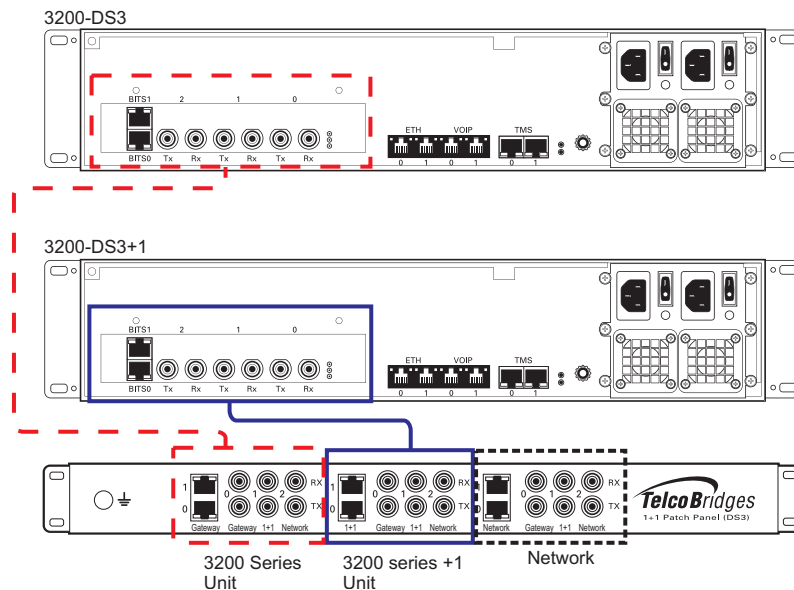

Figure 2.16 3200-DS3 and 3200-DS3+1 connecting to the TDM 1+1 DS3 1+1 patch panel
A 3200-DS3 and 3200-DS3+1 each with 3 sets of BNC connectors enables the connection to DS3 lines. See figure 2.16 on page 39.
1. Connect each DS3 line from the network section of the 1+1 patch panel to the remote equipment. See figure 2.16 on page 39.